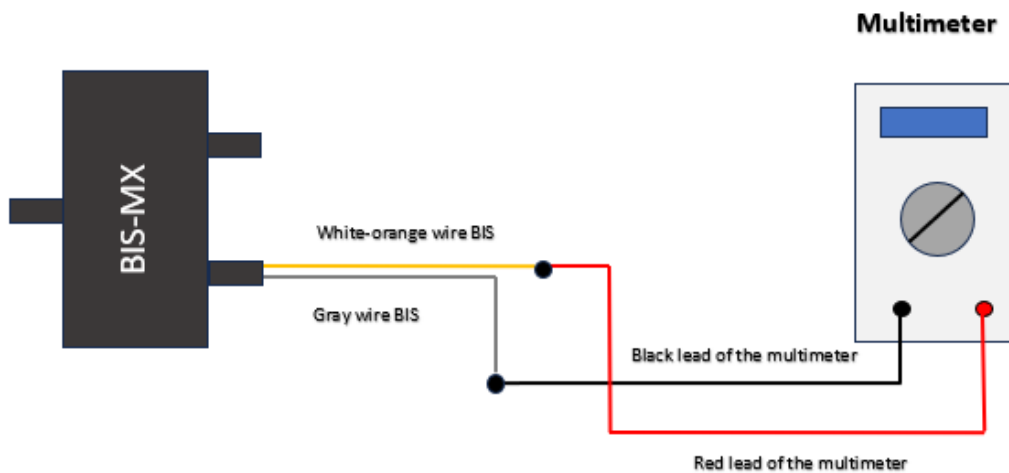

Fig. 14 Connection Diagram
2. Assemble the connection circuit according to "Fig. 14 Connection Diagram".